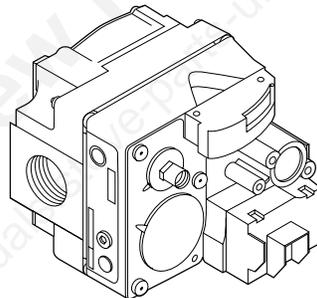

Figure 40
Step 5. Electronic Appliances – Mark the wires to the gas valve and remove the valve (**Figure 40**). Replace the valve with the one provided with the kit.